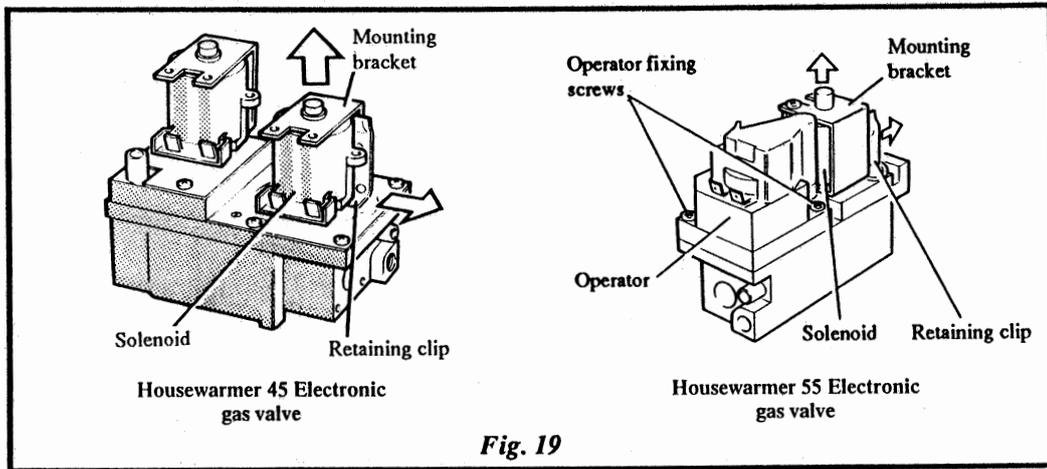

Fig. 19
15.7 To replace a gas valve operating solenoid - see Fig. 19.
15.8 To replace the gas valve operator (Housewarmer 55 only) - see Fig. 19.
4. Remove the two operator fixing screws, see Fig. 19 lift off the operator and remove the rubber diaphragm (note which way it is fitted).